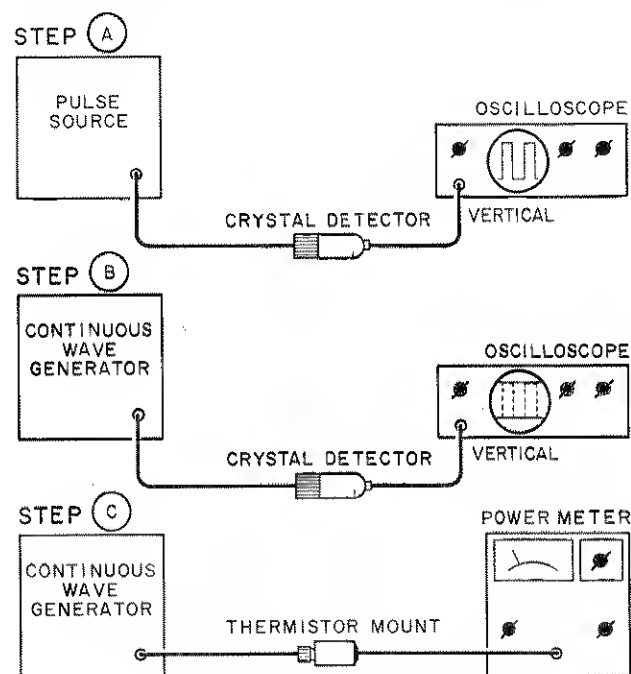

Figure 1. Peak Power Measurement
25. The power applied to the detector can be either modulated or continuous wave (CW). If modulated at a 1000 Hz rate, an SWR meter can be used as an indicator. For CW detection, a dc milliammeter or millivoltmeter can be used as the indicator.
27. Peak Power Measurement. The arrangement of equipment for peak power measurement is shown in Figure 1. The procedure involves calibration of an oscilloscope which, in turn, is used to calibrate a CW generator. The output of the calibrated CW generator is measure with a power meter; the peak power of a pulse is thereby measured. The procedure is as follows:
- Connect equipment as shown in Figure 1, step a. Observe pulse on a dc-coupled oscilloscope. Using a marking pencil, mark on the graticule the base-to-peak amplitude of the pulse envelope.